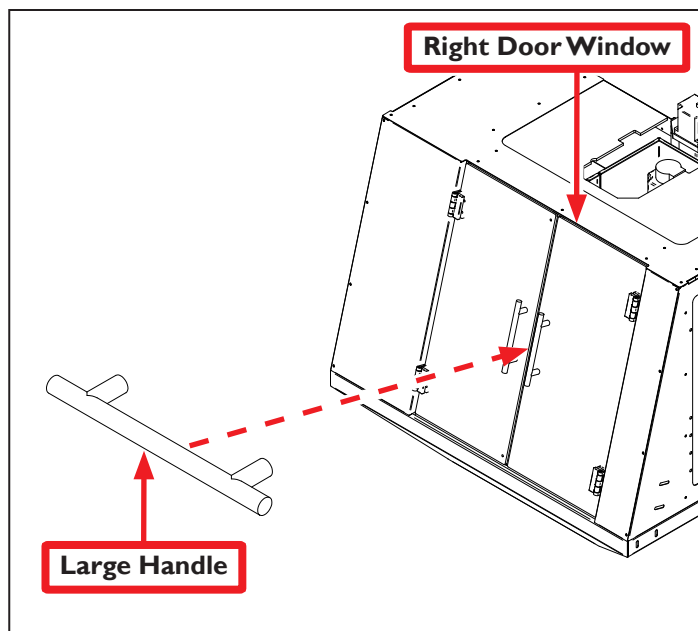

Figure 18
27. Using two 8-32 x 1/2" Phillips Screws, attach one Large Handle to Right Door Window (see **Figure 18**).